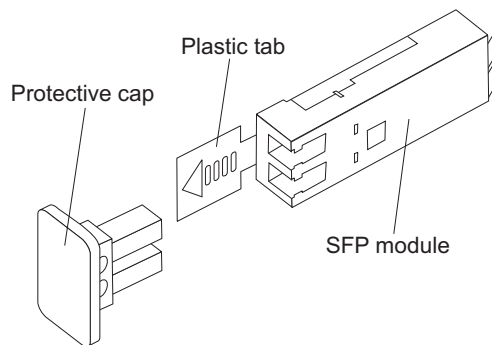

Figure 30. SFP module and protective cap
2. Remove the protective cap from the SFP module, as shown in Figure 30. Save the protective cap for future use.
2. If necessary, remove the protective cap from the SFP module, as shown in Figure 30 on page 52. Save the protective cap for future use.